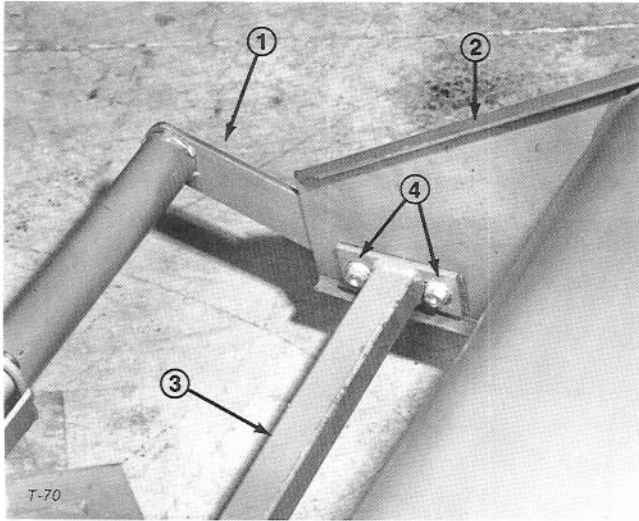

Figure 9
2. Move traction unit into mounting position in front of snowthrower with both sides of hitch adapter on outside of auger housing (Fig. 9).
3. Align hitch adapter mount holes with holes in auger housing and cross brace, install 3/8 X 1 inch carriage bolts and secure with flange nuts (Fig. 9).